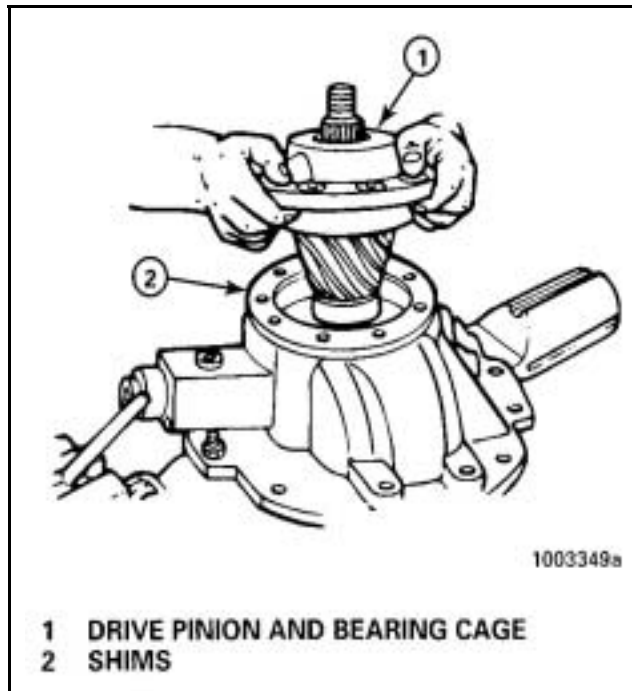

Figure 25
6. Remove the drive pinion, bearing cage and shims from the carrier. If the bearing cage is tight in the carrier, hit the bearing cage at several points around the flange area with a leather, plastic or rubber mallet. **Figure 25.**